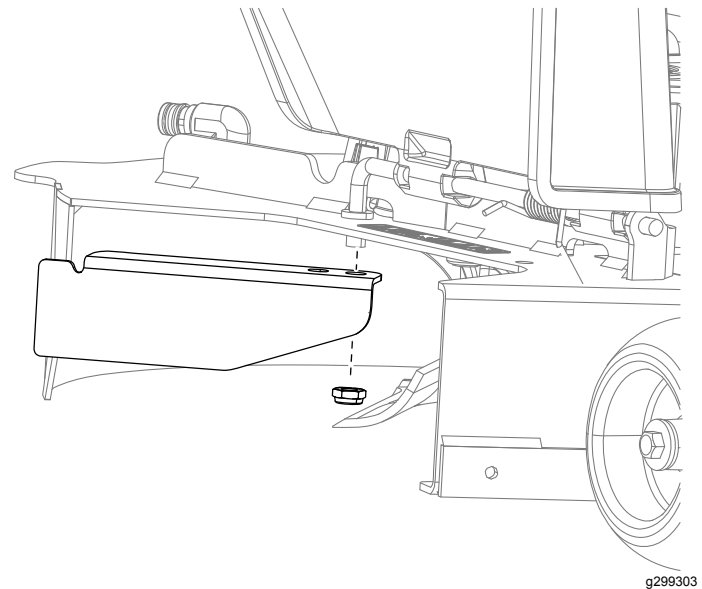

Figure 18
1. For 50-inch decks, remove the existing baffle from the machine (Figure 18).